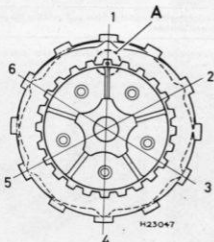

Fig. 1.11 Correct arrangement of clutch plain plate notches - DT model (Sec 41) Note also punch mark stamped on clutch centre - A
- The clutch plain and friction plates should be coated with transmission oil prior to installation. It will be noted that each of the plain plates has a part of its outer edge machined off. This effectively makes the plate become slightly out of balance, causing each plate to be thrown outwards under the centrifugal force and thus reducing clutch noise. To prevent the whole clutch from getting out of balance it is necessary to arrange the plates so that the machined areas are spaced evenly around its circumference. This can be achieved by arranging each cutaway area to be approximately 60° (DT models) and 72° (TZR models) away from the previous one. (See Fig. 1.11.) Starting with a friction plate, and then a plain plate, insert the plates in succession until all are fitted. Note on DT models that the friction plate with the larger internal diameter, should be the second friction plate to be installed into the clutch outer drum, along with the clutch damper ring.